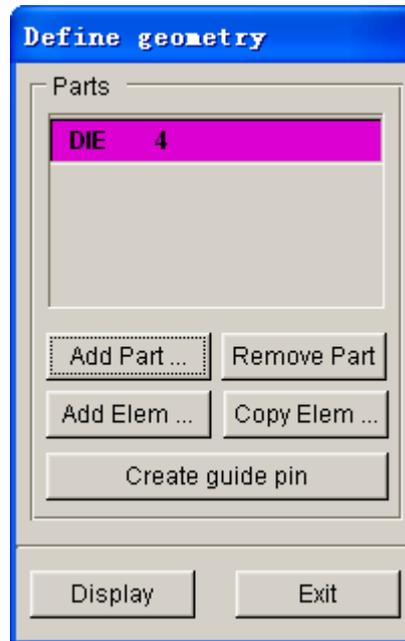

Figure 2.28 Die geometry list
- Click **OK** button to dismiss the SELECT PART dialog box. Now, the **DIE** part is added to the list of DEFINE GEOMETRY dialog box. See Figure 2.28.